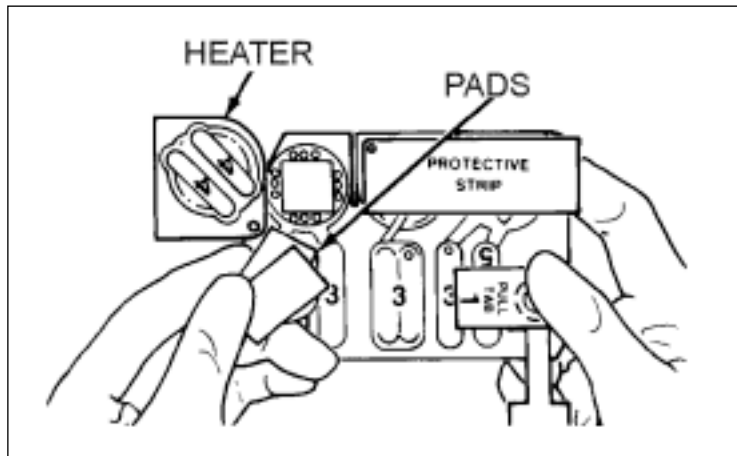

Fig 4-11. Removing heater pads.
- (1) Observe all warnings.
- (2) Swing out the heater; remove and save the two loose pads (fig 4-11).